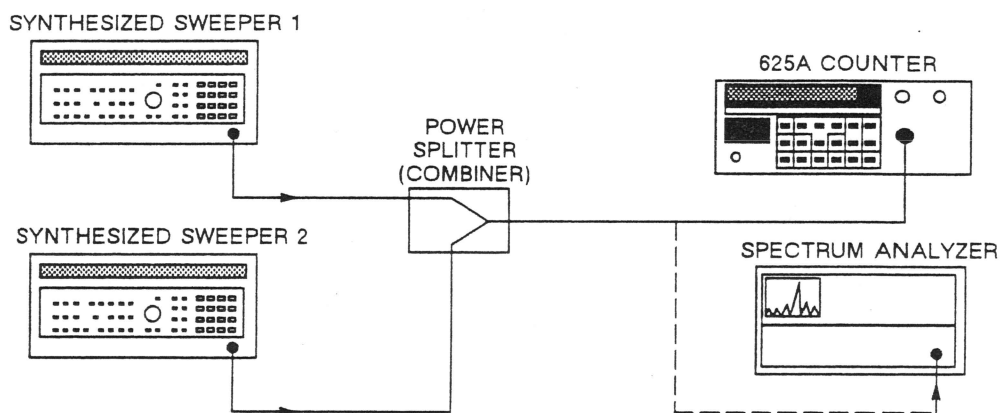

Figure 8-5. Band 3 Amplitude Discrimination Test Setup.
1. Connect equipment as shown in Figure 8-5.